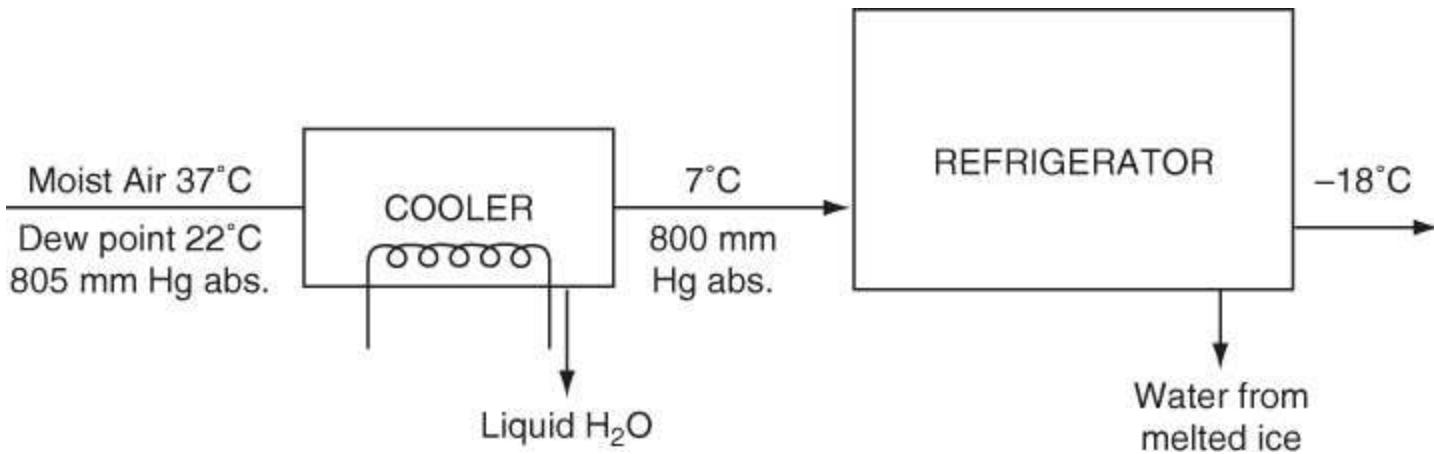

Figure P8.4.18
***8.4.18. To prevent excessive ice formation on the cooling coils in a refrigerator room, moist air is partially dehydrated and cooled before passing it through the room (see Figure P8.4.18). The moist air from the cooler is passed into the refrigerator room at the rate of 20,000 ft³/24 hr measured at the entrance temperature and pressure. At the end of 30 days the refrigerator room must be allowed to warm in order to remove the ice from the coils. How many pounds of water are removed from the refrigerator room when the ice on the coils in it melts?